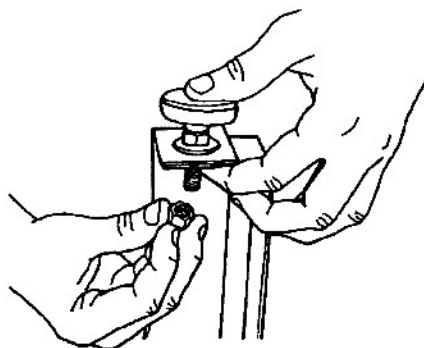
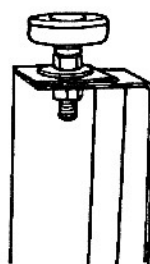

Fig. 20
Fig. 21
31. While holding the flat washer in place, attach a hex nut (33), as seen in Fig. 20. Finger tighten. Fig. 21 shows the assembled leveling foot.